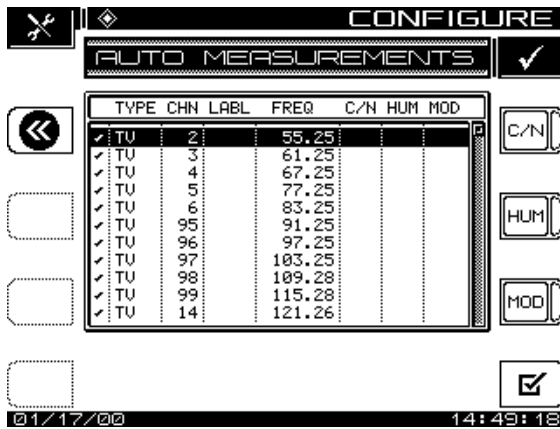

Fig. 14-7 The AUTO MEASUREMENTS Screen
- **Specify Auto Measurements:** Press the **Enter** key to specify the measurements to be taken during the performance of an Auto Test (see Fig. 14-7). This feature allows the user to specify which channels C/N, Hum, and Modulation measurements are made on.